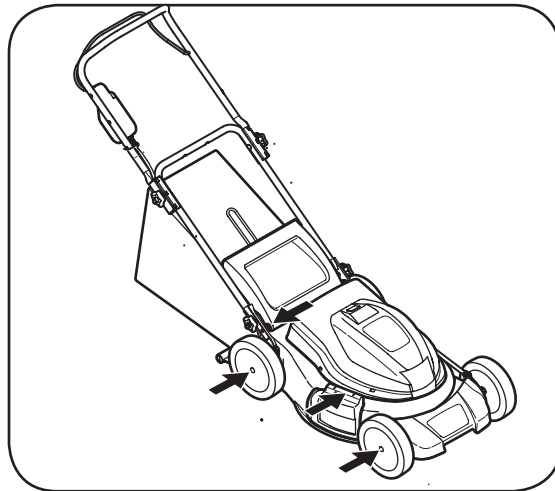

Figure 6-1
- Lubricate the wheels at least once a season with light oil (or motor oil). If wheels are removed for any reason, lubricate surface of the pivot arm and inner surface of the wheel with light oil. See Figure 6-1.
- Lubricate the torsion spring and pivot point on the rear discharge door and side mulch plug periodically with light oil to prevent rust. See Figure 6-1.